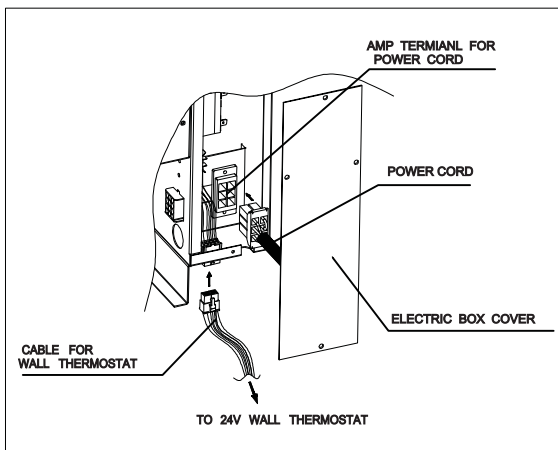

Fig.04 POWER CORD CONNECTION
1. Remove junction box cover by moving three screws. See Fig.04
2. Connect accessory power cord to unit. See Fig.04
Connect the wall thermostat cable with the chassis as Fig.04